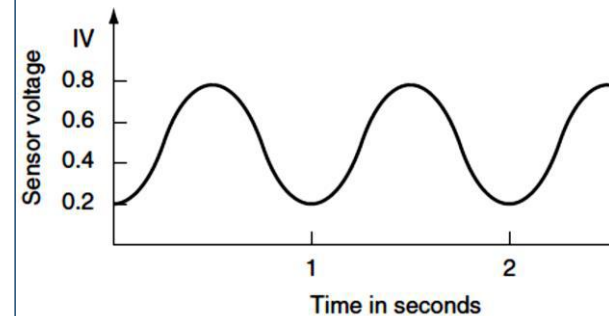

Fig. 5.30 The voltage waveform of an EGO sensor
- The approximate shape of the voltage waveform from the EGO sensor when in operation is shown in Fig. 5.30. This waveform arises from the way that the ECM alters the amount of fuel injected, i.e. lowering and raising the amount of fuel injected, in an ordered way, so as to keep the air–fuel ratio within the required limits.